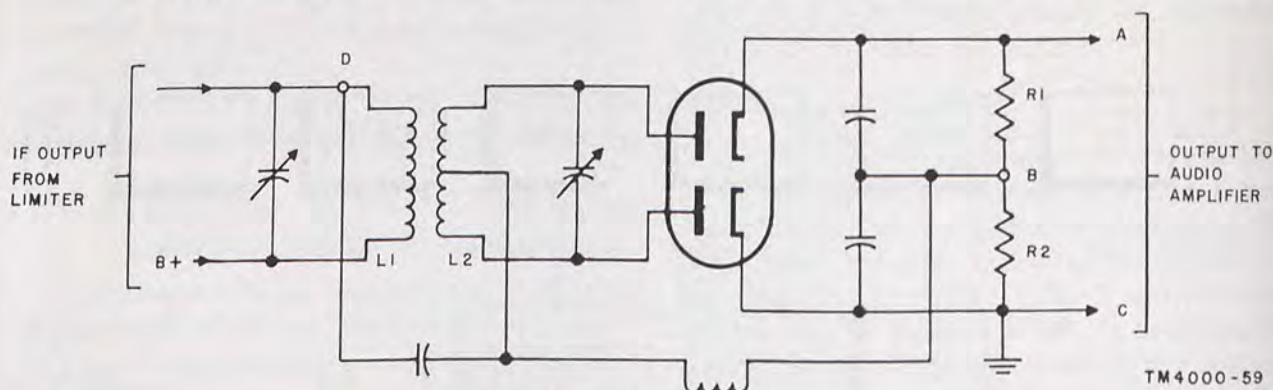

Figure 70. Discriminator, showing test points.
c. Begin signal substitution by feeding an unmodulated signal from a signal generator to the grid of the limiter stage. Set a vtm to indicate dc volts, with the needle at zero center. Connect the vtm across the discriminator load resistors; these are R1 and R2 in figure 70 and the connection points are A and C. Set the output frequency of the signal generator to the resting frequency of the receiver (the intermediate frequency); the vtm should read zero. Alternately tune the signal generator above and below the resting frequency. If the vtm swings to one side and then the other of zero as the frequency is varied, the limiter and the discriminator are operating. (At the resting frequency there is no output from the discriminator.)
e. Connect the signal generator to the input of the discriminator and vary its frequency as described in c above. In figure 70 the signal is applied between point D and ground. If the voltage indication on the vtm does not follow the frequency variations, the discriminator or coil L1 is defective.